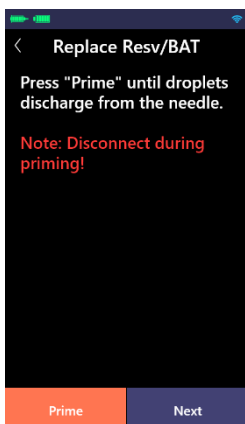

Figure 10.3
(3) Prime. Press or click “Prime” until droplets discharge from the needle and then click “Next” (as shown in Figure 10.3).